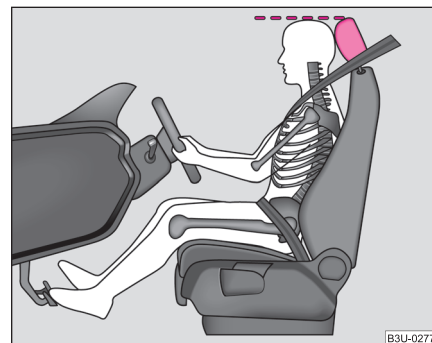

Fig. 105 The correct head restraint adjustment for the driver
- Adjust the head restraint so that the top edge of the head restraint is at the same level as the upper part of your head ⇒ fig. 105.
- Adjust the head restraint so that the top edge of the head restraint is at the same level as the upper part of your head ⇒ page 135, fig. 105.
- Adjust the head restraints so that the top edge of the head restraints are at the same level as the upper part of your head ⇒ page 135, fig. 105.